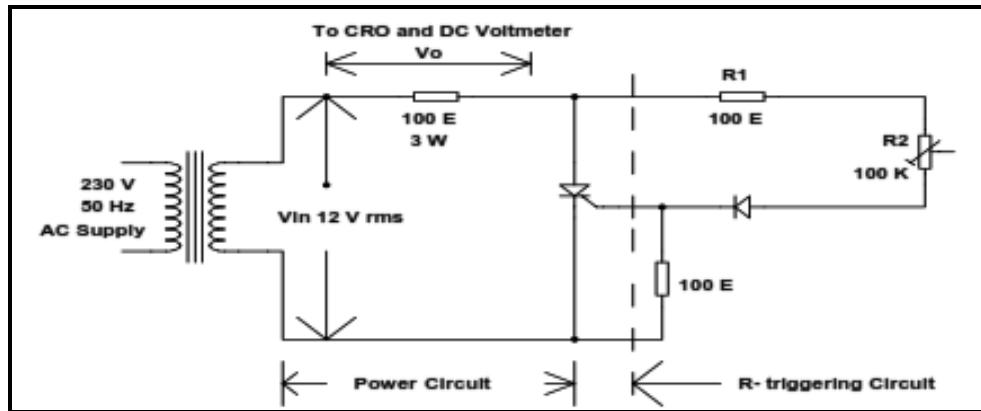

Fig. 4.1 R-triggering Circuit
1. Make the circuit connection as per the circuit diagram shown in Fig.4.1
1. Refer fig. 4.1 and 4.2; state the effect on load voltage if diode is open.
2. Refer fig. 4.1 and 4.2; state the effect on load voltage if R_1 and R_2 are short circuited.